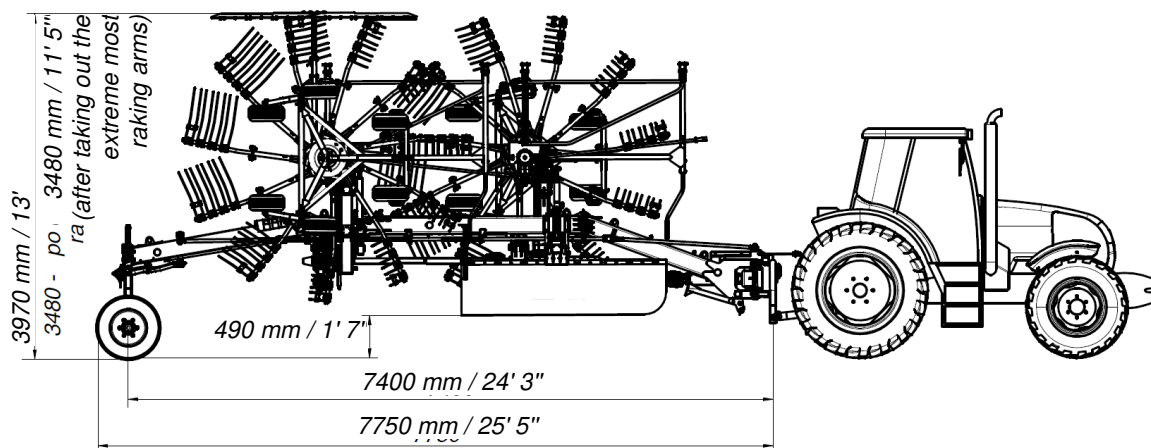

Fig. 10. Transport dimensions
- ❑ take out the extreme most raking arms from a rotor, place them in transport holes (depending on max. height of obstacles under way) (**Fig. 10**),